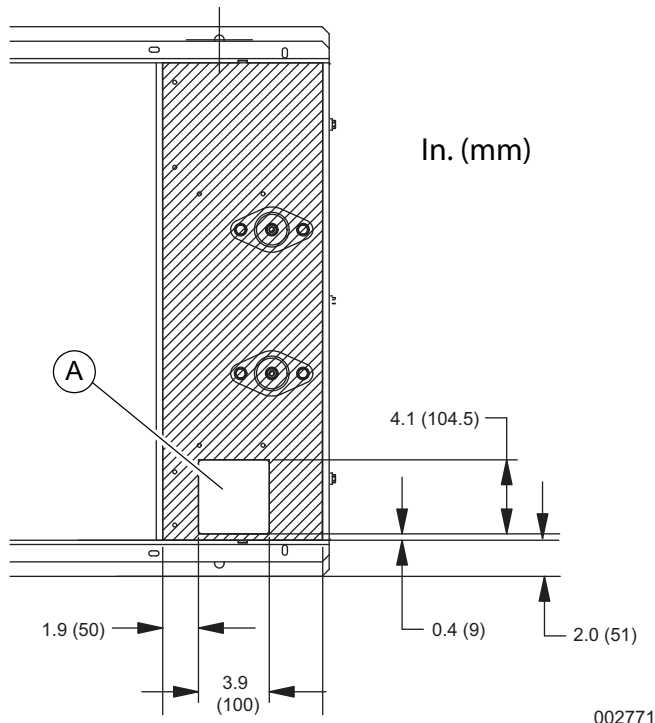

Figure 3-4. Installation Drawing Stub-Up Detail (Typical)
For load conduit, auxiliary power conduit (high voltage), and control wiring conduit (low voltage), see unit installation drawings for location and dimensions of the stub-up area. **Figure 3-4** illustrates a typical stub opening (A).